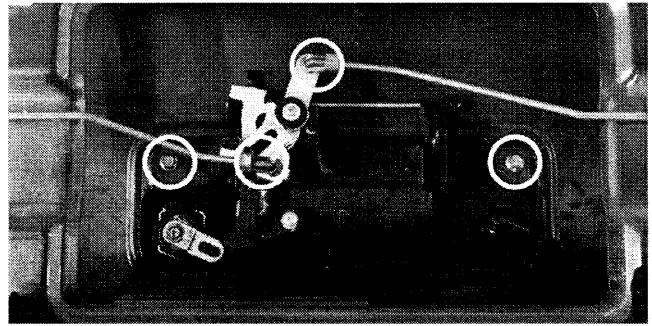
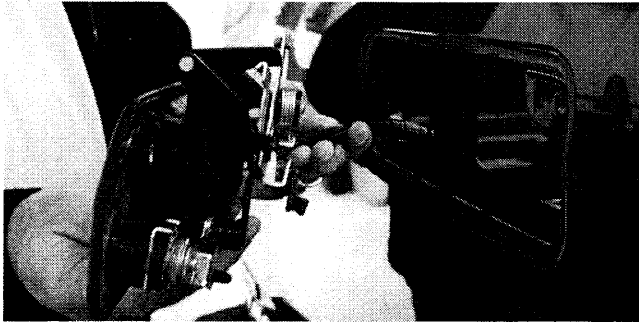

Figure 2
Figure 3
2. Remove the factory tailgate latch and replace with integrated camera latch (**figure 2 and figure 3**).